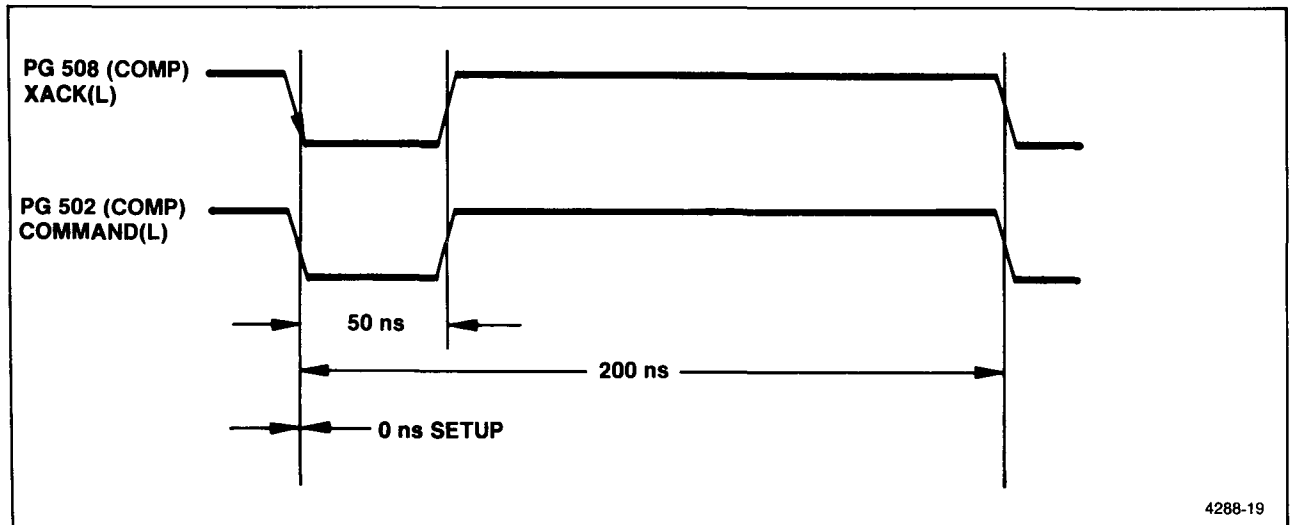

Figure 5-12. Command setup time.
6. Confirm that the oscilloscope waveforms are as shown in Figure 5-12.